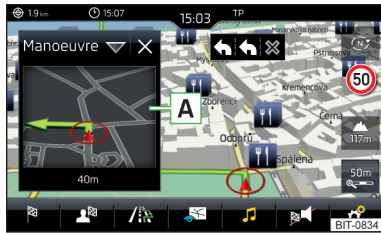

Fig. 225
The unit offers the possibility to show in the split screen display the following **Position** » Fig. 225 on page 183 information about the current geographical position of the vehicle and the satellite signal.
- To **select content** of the additional window **A** » Fig. 225 tap the function surface Tap and select one of the following menus, depending on the context.